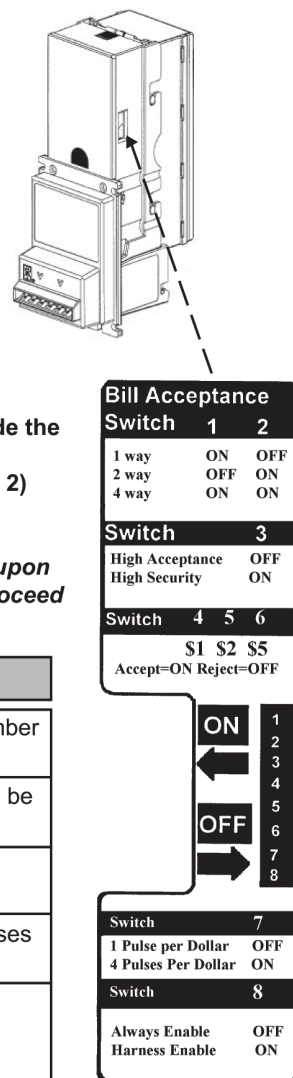

Figure 2
1. Set Bill Acceptor option switches. See Figure 2.
Important note: Placing any switch ON will override the above options, and the Bill Acceptor will operate according to the switch settings label! (See Figure 2)